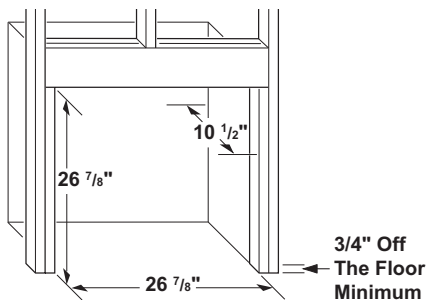

Figure 8 - Rough Opening for Installing in Wall
1. Frame in rough opening. Use dimensions shown in Figure 8 for rough opening.